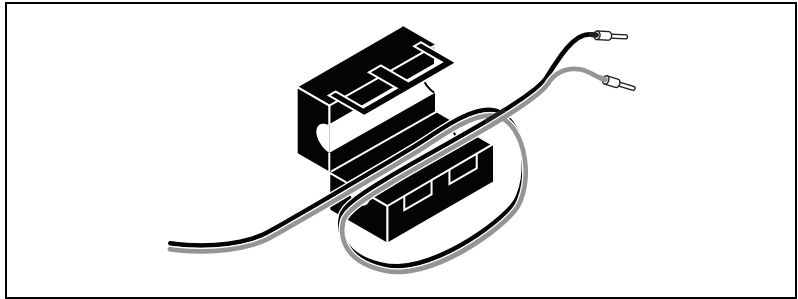

Figure 22. Wrapping the Power Wires around the Ferrite
1. Install the ferrite 2–3 in. from the ends of the power wires. Wrap the wires around one side of the ferrite so that they pass through the ferrite twice, as shown in Figure 22.